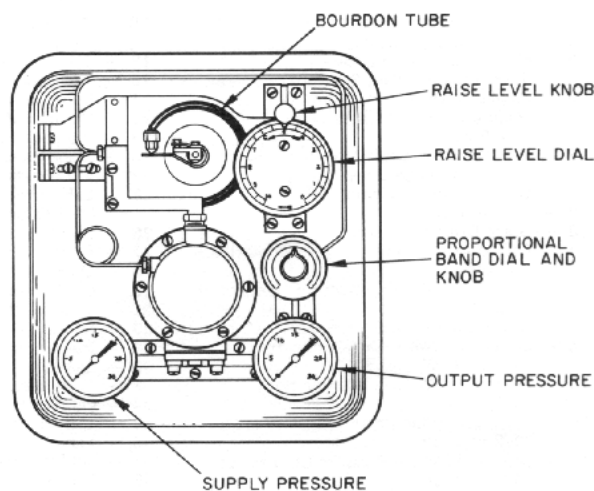

Fig. 3 — Series 2500 Level Controller
Check Level Controller Settings — When supplied, level controllers for 17MPS/FA machines are usually Fisher Series 2500-249. As shipped from the factory, the controller proportional band dial (Fig. 3) is generally set at the maximum effective proportional band for the refrigerant being controlled. This setting is also stamped on the controller nameplate. It is seldom used in actual machine operation but is useful in checking controller calibration.
2. Controller air output range (3 - 15, or 6 - 30 psi). The output range is indicated by the bourdon tube color (Fig. 3 and Table 3). Check that the range of controller matches the range of the controlled valve.
Before the machine is charged with refrigerant, the refrigerant liquid level is zero (i.e., below the displacer cage of the controller). At this condition, the air output signal should be at its lowest point (3 or 6 psi on direct-acting controller), or at its highest point (15 or 30 psi on reverse-acting controller). With the proportional band at maximum setting as listed on the controller nameplate, check the air output pressure per Table 3. Adjust the raise level knob (Fig. 3) as required to obtain the required pressure.